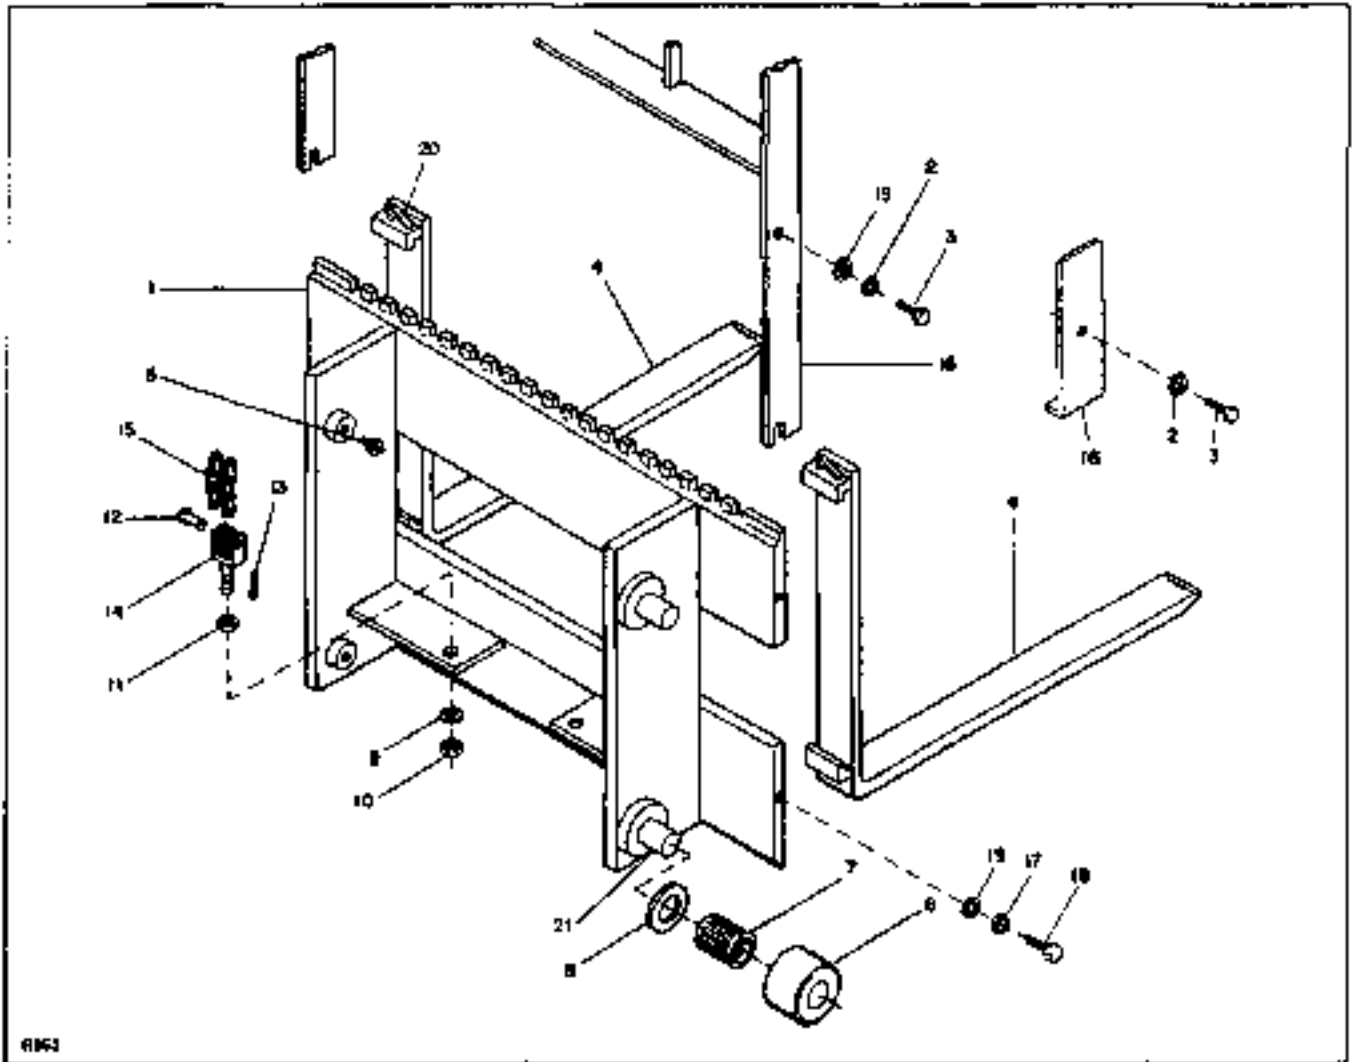

Figure 8-5. ITA Lift Carriages
- a. Loosen adjusting pins (20) on forks and slide forks from lift carriage.
- b. Remove snap ring (3, Figure 8-5).